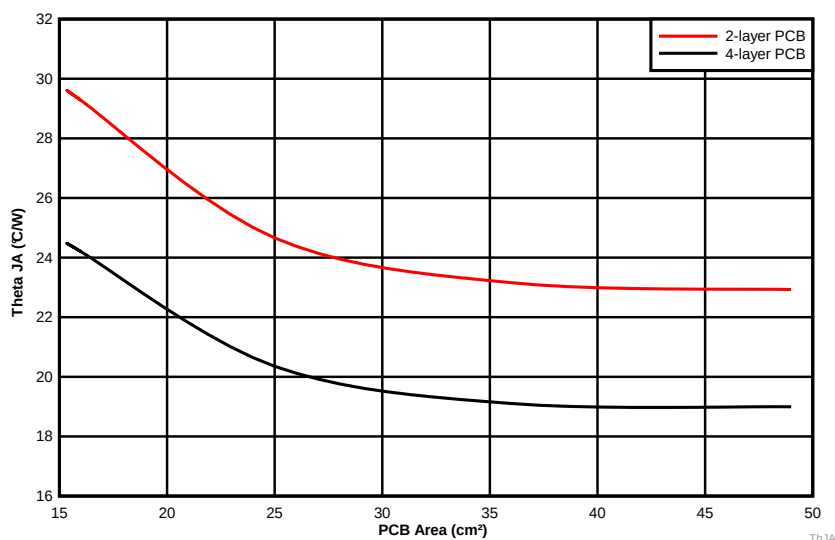

图 37. θ_{JA} vs PCB Area
The amount of PCB copper effects the thermal performance of the device. 图 37 shows the effects of copper area on the junction-to-ambient thermal resistance ($R_{\theta JA}$) of the LMZM33602. The junction-to-ambient thermal resistance is plotted for a 2-layer PCB and a 4-layer PCB with PCB area from 16 cm² to 49 cm².
3. Reference 图 37 to determine the minimum required PCB area for the application conditions.